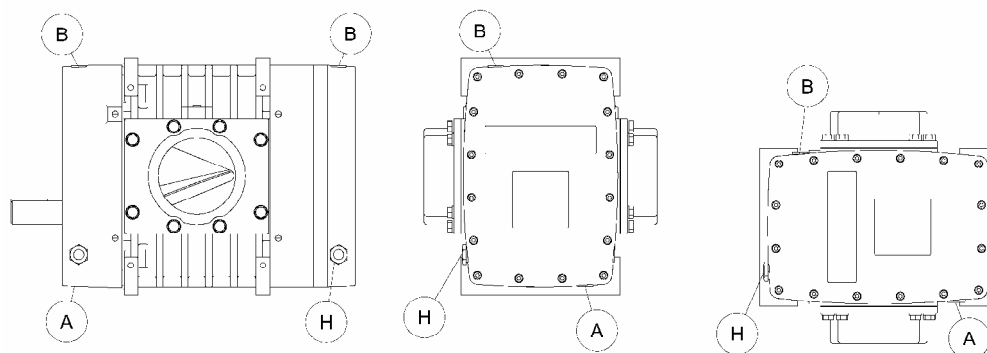

FIGURE 3-1 - LUBRICATION
When changing mounting configuration, it will be necessary to reposition oil level gauge (H), and drain plug (A). Refer to FIGURE 3-1, page 8, for correct location.
Refer to FIGURE 3-1. While the blower is not running remove the plug (B) from each sump. Add oil to each sump until it reaches the middle of each oil level sight gauge (H). Secure the plug (B) in each end.